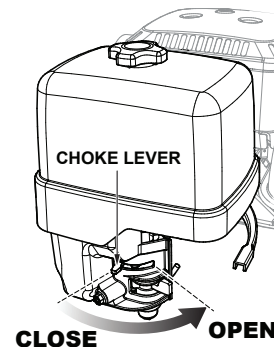

Figure 21. Choke Lever (Open)
9. If the choke lever was moved to the **CLOSED** position to start the engine, gradually move it to the **OPEN** position (Figure 21) as the engine warms up. If the engine has not started, repeat steps 1 through 8.